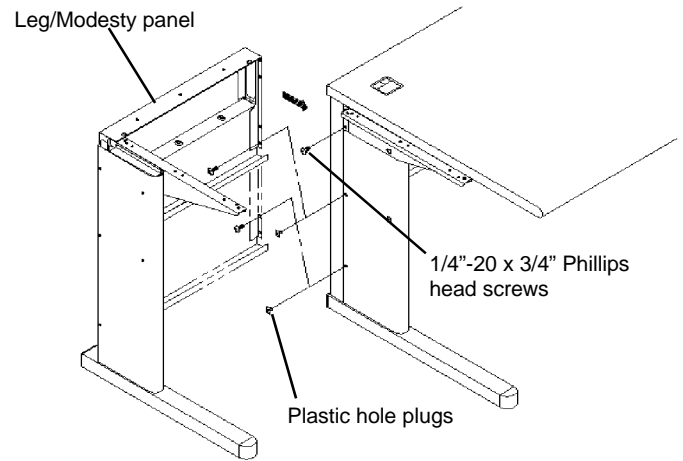

Figure 4
5. Attach the Leg/Modesty Panel assembly to the adjoining LINX workstation. The Modesty panel installs from the rear and fits between the Top Support and the leg. Attach it with two 1/4"-20 x 3/4" Phillips head screws. Tighten all screws securely. See **Figure 4**.